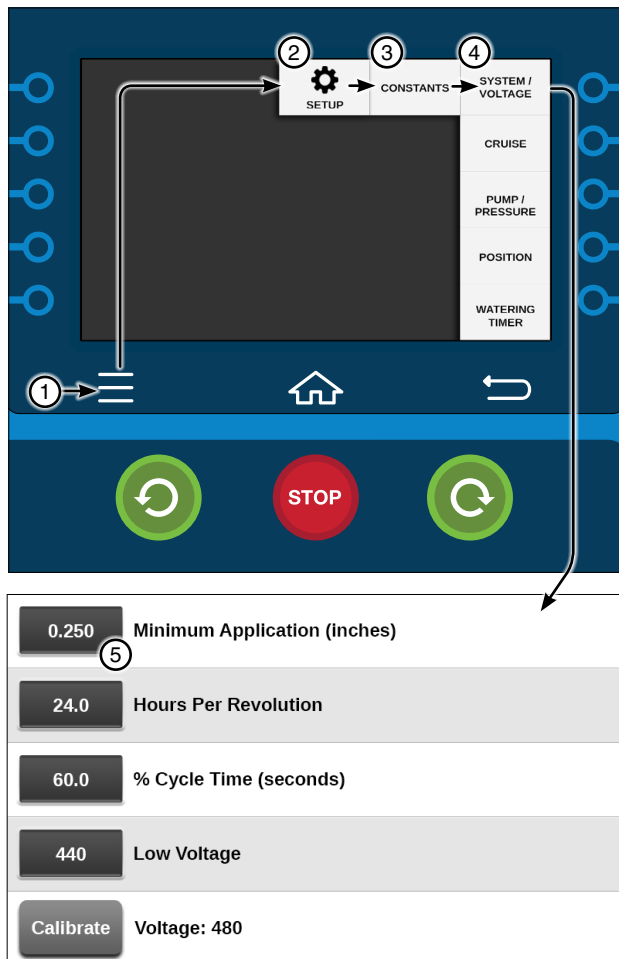

Figure 24-1 1. Menu 2. Setup 3. Constants 4. System/Voltage 5. Minimum Application
The Constants menu is used to enter or adjust the constant parameters for the system, voltage, cruise control, pump, pressure, position and watering timer. Refer to Figure 24-1.
The System/Voltage screen is displayed in Figure 24-1.
Minimum Application is used to set the depth of water applied at a percentage timer setting of 100 percent. Refer to Figure 24-1.
To set the Minimum Application refer to Figure 24-1 and follow these steps:
1. Push **Menu**, **Setup**, **Constants** and **System/Voltage** to display the System/Voltage screen. Refer to Figure 24-1.